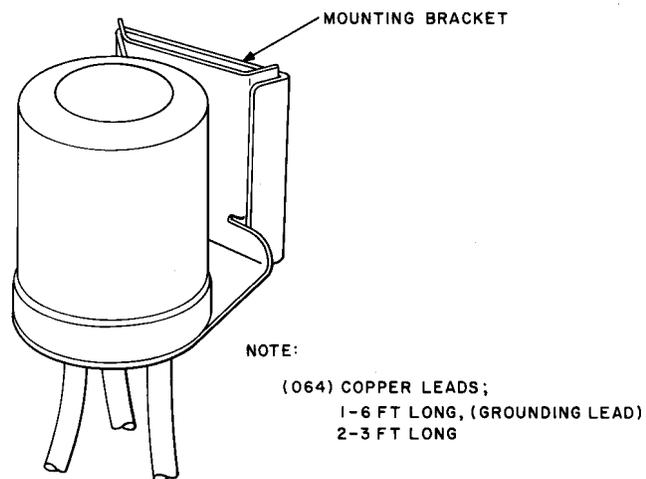

Fig. 9—118B Protector
4.01 Install 118B protectors (Fig. 9) on C rural wire only at those designated locations specified by detail plans or other instructions from the plant engineer; however, at any designated location with more than one C rural wire, a 118B protector is required for each C rural wire.